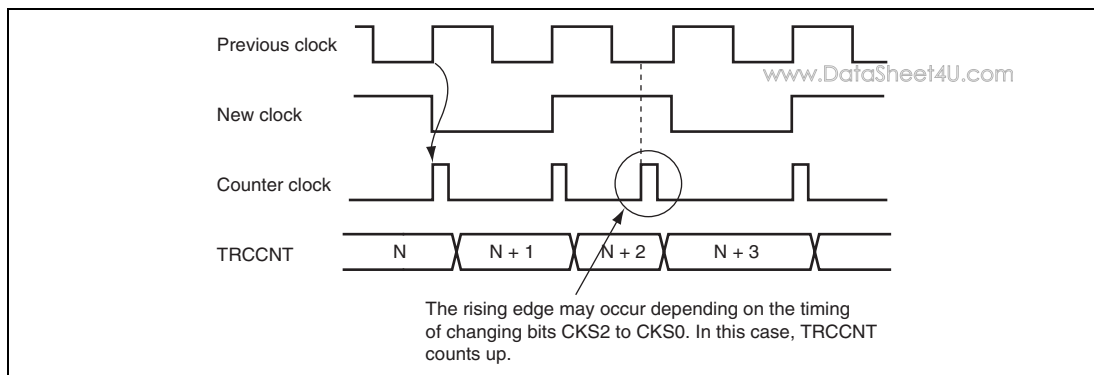

Figure 15.38 Internal Clock Switching and TRCCNT Operation
3. TRCCNT may erroneously count up depends on the timing of switching internal clocks. The count clock is generated by detecting the rising edge of the divided system clock (ϕ) when the internal clock is selected. If clocks are switched as shown in figure 15.38, the change from the low level of the previous clock to the high level of the new clock is considered as the rising edge. In this case, TRCCNT counts up the clock erroneously.